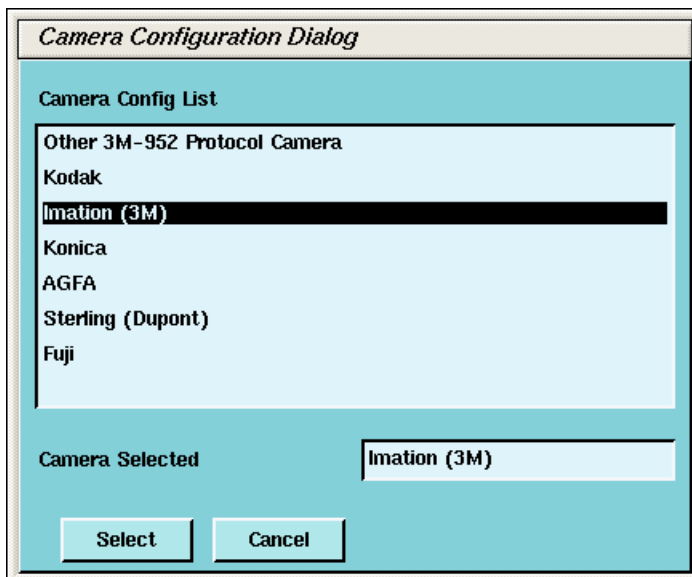

Figure 7-12 Camera Model Dialog (with DASM)
- 5.) To add a new laser camera, click DASM in the camera type dialog box. This brings up a list of available camera models. Select the appropriate model from the list and click SELECT (See Figure 7-12). Now you must configure it.